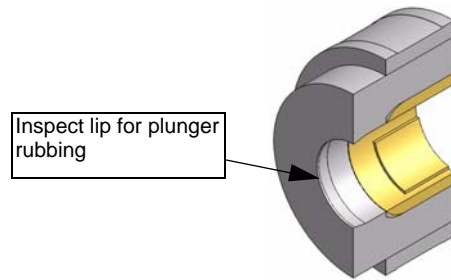

Figure 5-16: Backup-support Ring Inspection
- With the magnifying glass, examine the edges and interior of the metal lip in the bore of the Backup-support Ring (Figure 5-16) adjacent to where the Dynamic Seal was positioned, especially if uneven or excessive extrusion of the Dynamic Seal was observed. The exterior edge of the short lip should be sharp and square with no nicks or gouges. There should be no evidence of rubbing on the lip.